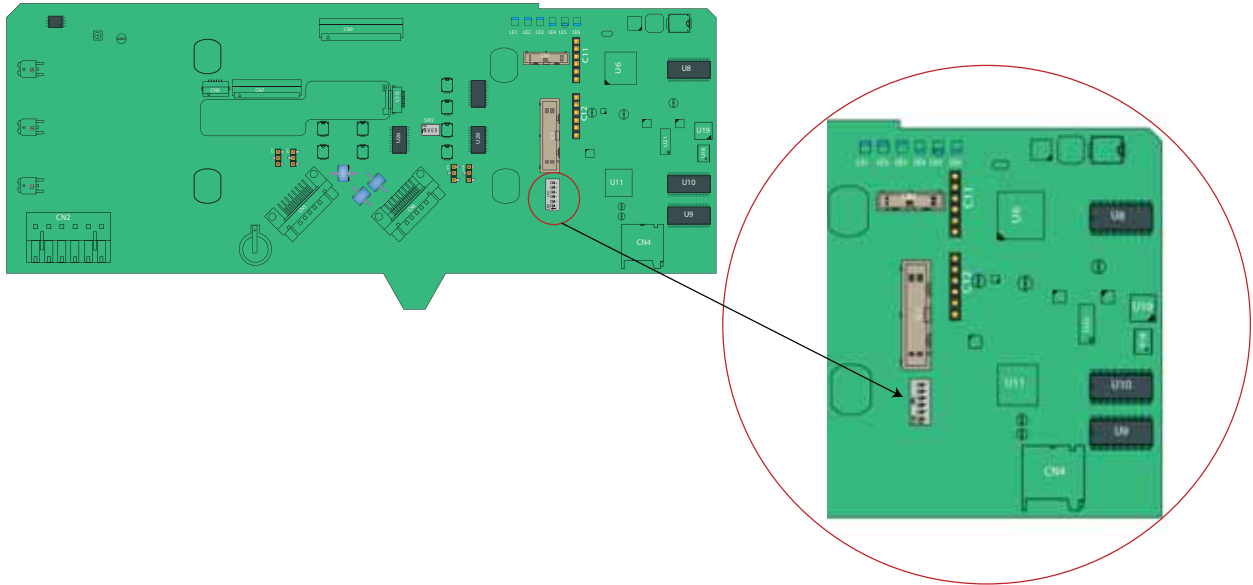

FIGURE 5-20
- If you forget the password, JP2 of SW1 must be set to OFF on the CAN-HMI-MSC (see FIGURE 5-20). The **Unlock Device** screen is initialized with the current password value.